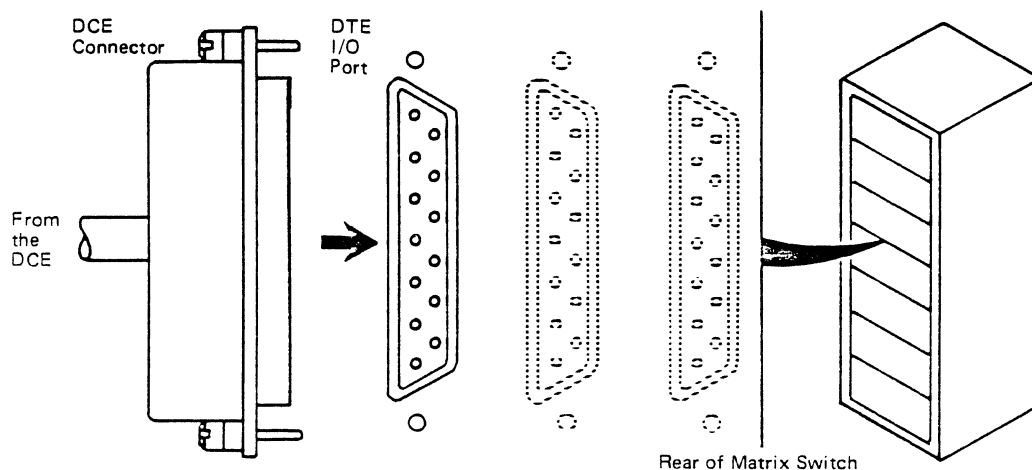

Figure 8-8. DCE Connection to DTE I/O Port on I/O Port Connector Panel
2. Connect the DCE end of the EIA cable to the DTE I/O port on the I/O Port Connector Panel at the rear of the Matrix Switch (Figure 8-8).